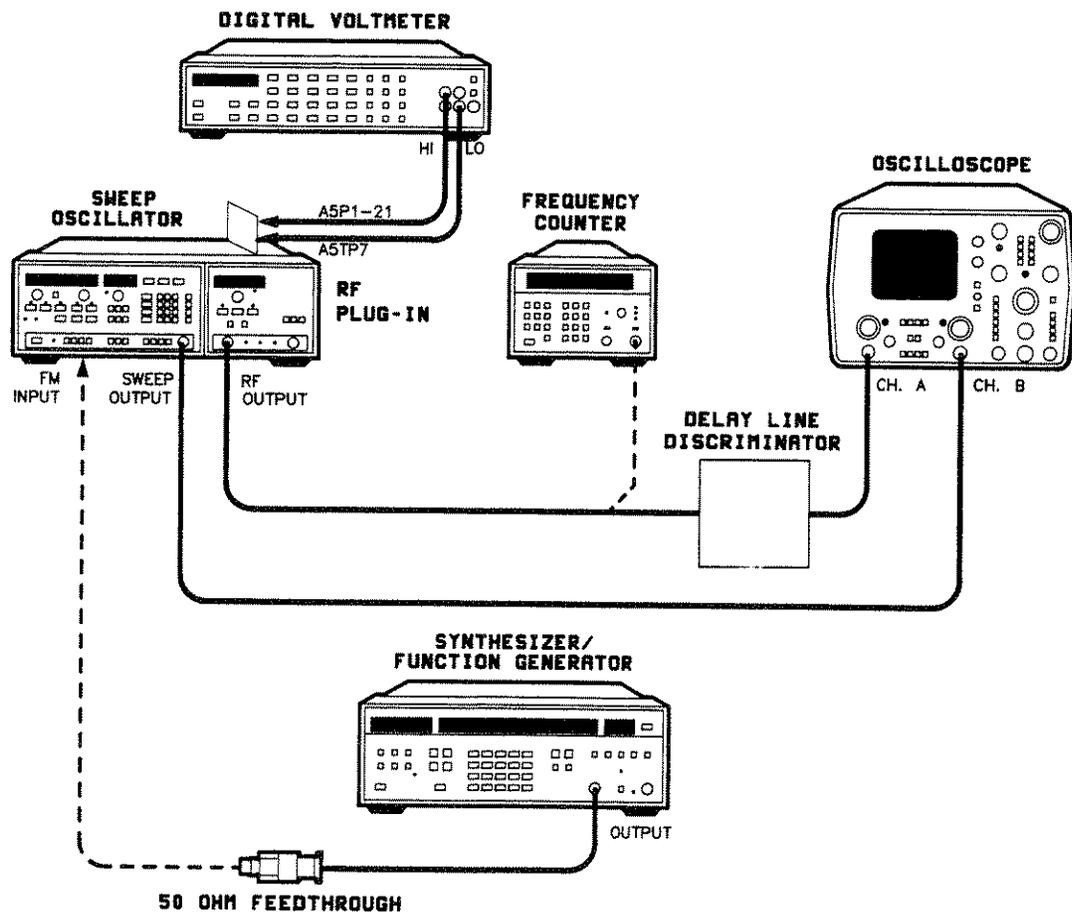

Figure 5-48. FM Adjustment Test Setup
1. The equipment in figure 5-48 will be configured in the following procedure. In the interim, allow 30 minutes for warmup for each instrument.
9. Connect the equipment as shown in figure 5-48 with the delay line discriminator connected to the RF OUTPUT of the plug-in and the function generator connected to the rear panel FM INPUT connector of the sweep oscillator.